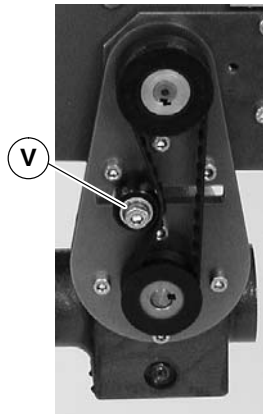

Figure 19
5. Loosen tensioner (V of Figure 19).